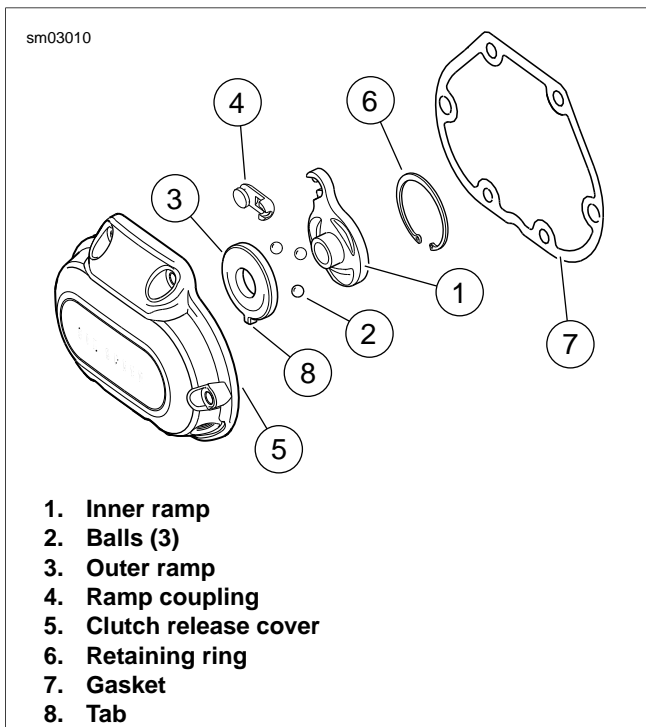

Figure 6-6. Release Mechanism Assembly
1. See Figure 6-6. Wash the ball and ramp mechanism components in cleaning solvent.
2. Inspect the three balls (2) and ball socket surfaces on ramps (1, 3) for wear, pitting, surface breakdown and other damage. Replace damaged parts.
3. Check fit of the ramp coupling (4) on inner ramp (1). Replace both parts if there is excessive wear.
4. Inspect the retaining ring (6) for damage or distortion.
6. Check the bore in the cover (5) where the ramps (1, 3) are retained. There should be no wear that would cause the ramps to cock, causing improper clutch adjustment.
2. See Figure 6-6. Place outer ramp (3) with ball socket side up in clutch release cover. Be sure tab (8) is in clutch release cover slot.